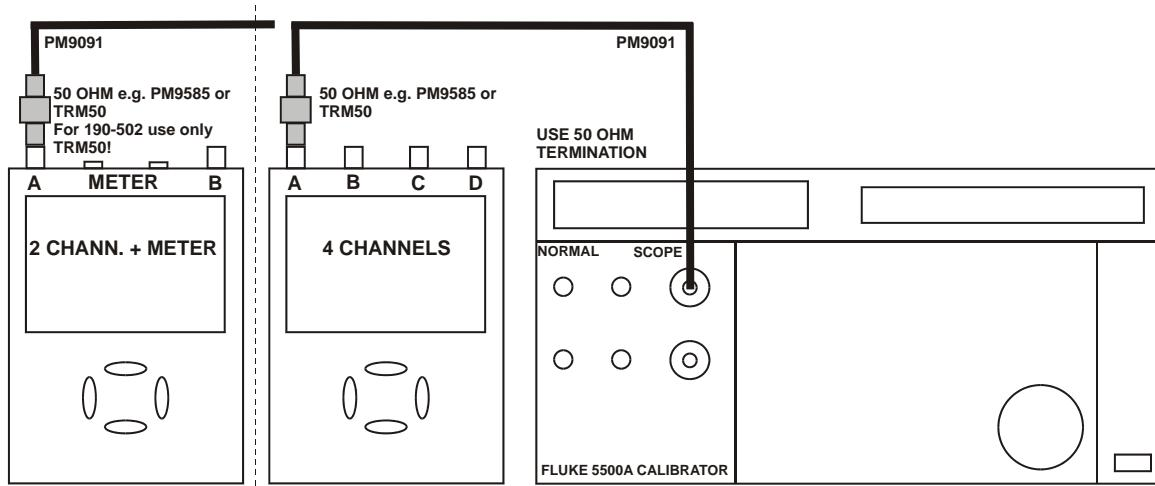

Figure 5-11. 5500A SCOPE Output to Test Tool Input A.
5. Connect the Test Tool to the 5500A SCOPE output as shown in Figure 5-11. Use  $50\Omega$  termination.
1. Connect the Test Tool to the 5500A as shown in Figure 5-11.